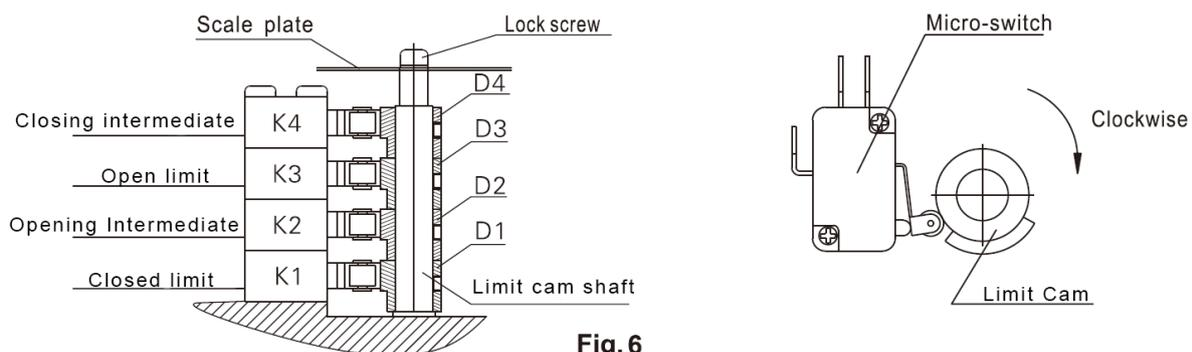

Fig. 6
2. Adjustment of Electric Limit for Middle Position Type (Fig. 6)